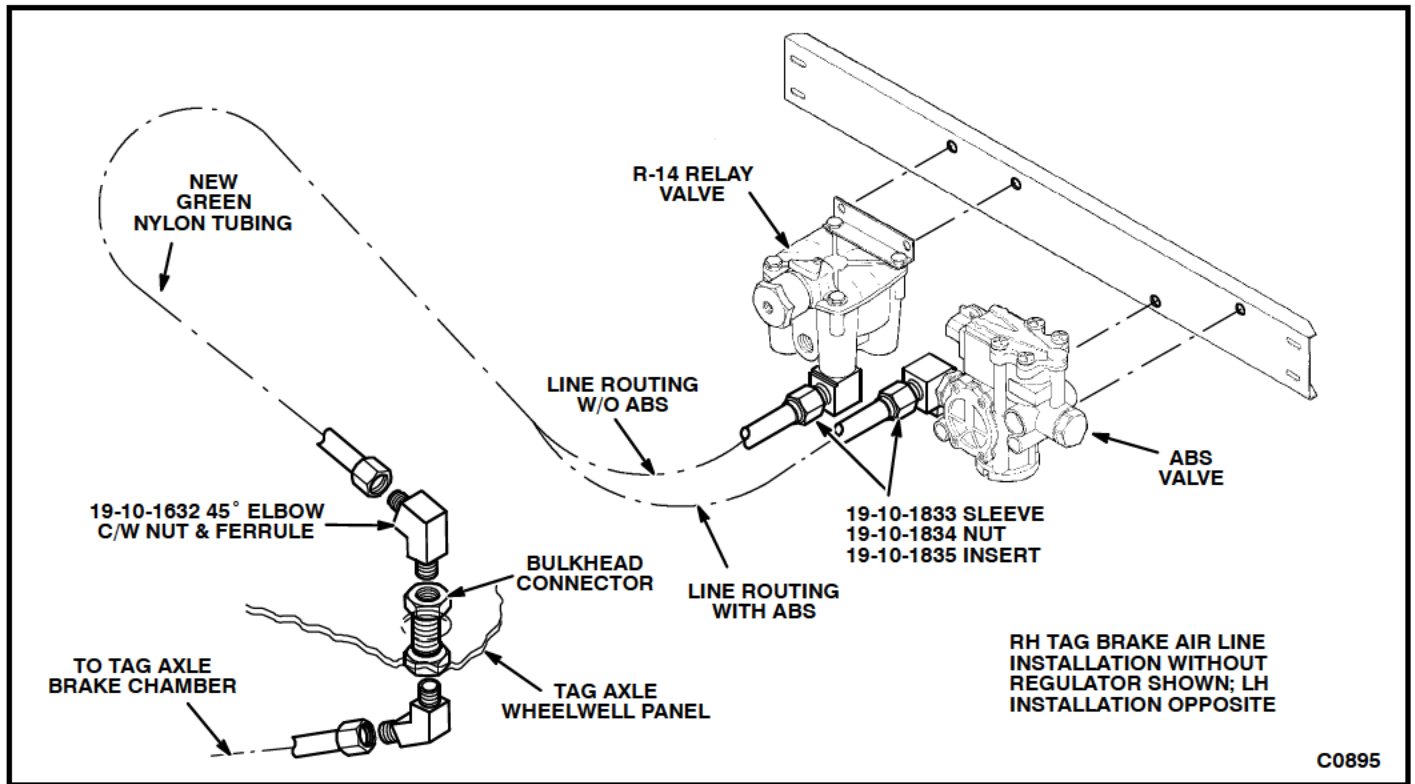

Figure 6. New Tag Axle Brake Airline Installation Without Regulator Valve.
4. Install a 19-10-1632 male 45° elbow into each of the bulkhead connectors, and using the nuts and ferrules supplied with the elbow, connect a 24" or 27"* length of new 1/2" green nylon airline from the kit to each elbow. See Figure 6.
5. Using the 19-10-1833 sleeves, 19-10-1835 inserts, and 19-10-1834 nuts from the kit, connect the other ends of the new airlines to the ABS valve on coaches with anti-lock brakes or to the R-14 valve on coaches without anti-lock brakes. See Figure 6.